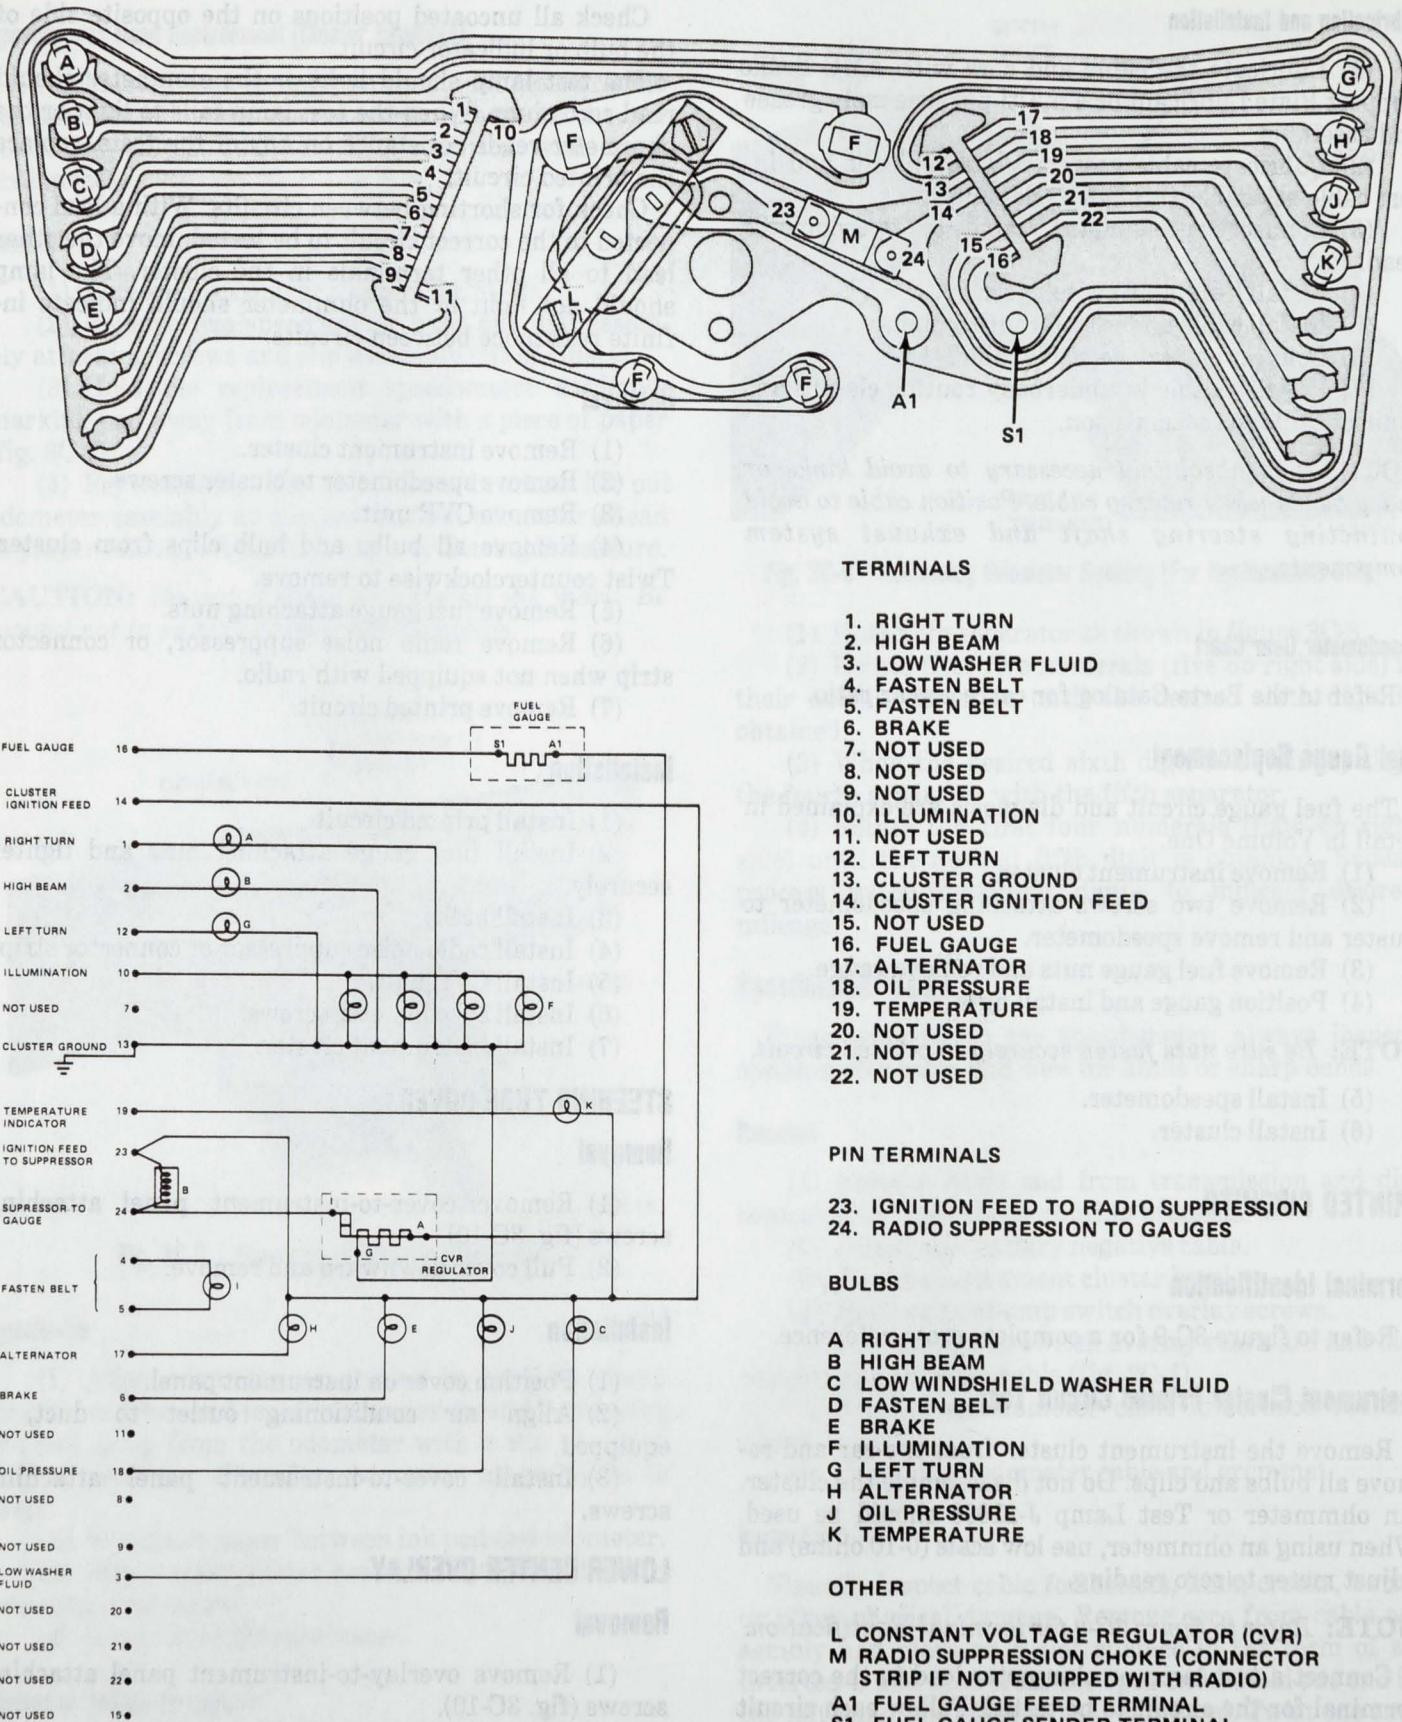

Fig. 3C-9 Instrument Cluster Circuitry
- (1) Remove cover-to-instrument panel attaching screws (fig. 3C-10).
- (2) Pull cover downward and remove.
- (1) Remove overlay-to-instrument panel attaching screws (fig. 3C-10).
- (2) Remove rear defogger indicator lamp and disconnect feed wire, if equipped.
- (3) Pull overlay away from instrument panel and remove.
- (1) Disconnect battery negative cable.
- (2) Remove cluster bezel with a straight, firm pull (fig. 3C-2).
- (3) Remove radio control knobs and nuts, if equipped.
- (4) Remove radio overlay.
- (5) Disconnect cigarette lighter wiring.
- (6) Disconnect clock wiring.
- (7) Remove clock attaching screws and remove clock from radio overlay.
- (1) Install clock on radio overlay.
- (2) Connect clock and lighter wiring.
- (3) Install radio overlay (fig. 3C-10).
- (4) Install cluster bezel.
- (5) Install radio nuts and control knobs, if equipped.
- (6) Connect battery negative cable.
- (7) Reset clock.